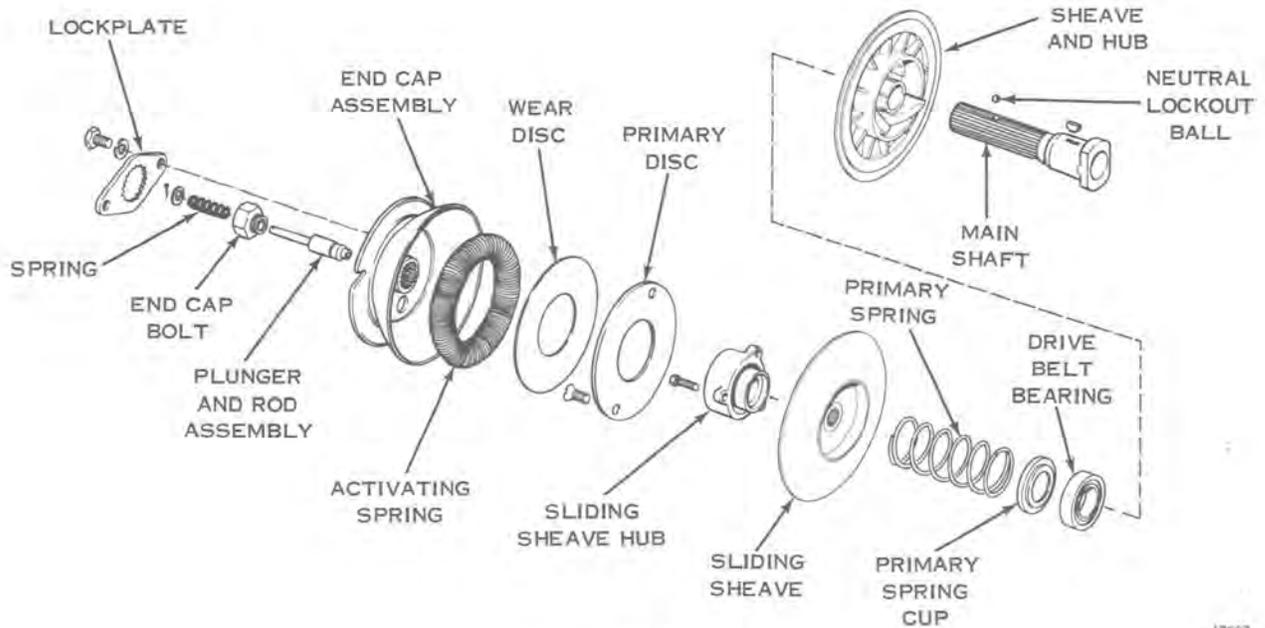

Figure 10-5
- g. Remove sliding sheave and inspect main shaft spline, neutral lockout balls, bearing, compression spring and garter (activating) spring (see Figure 10-5).
2. Place primary spring on shaft with closed side of spring cup toward bearing. See Figures 10-5 and 10-6.